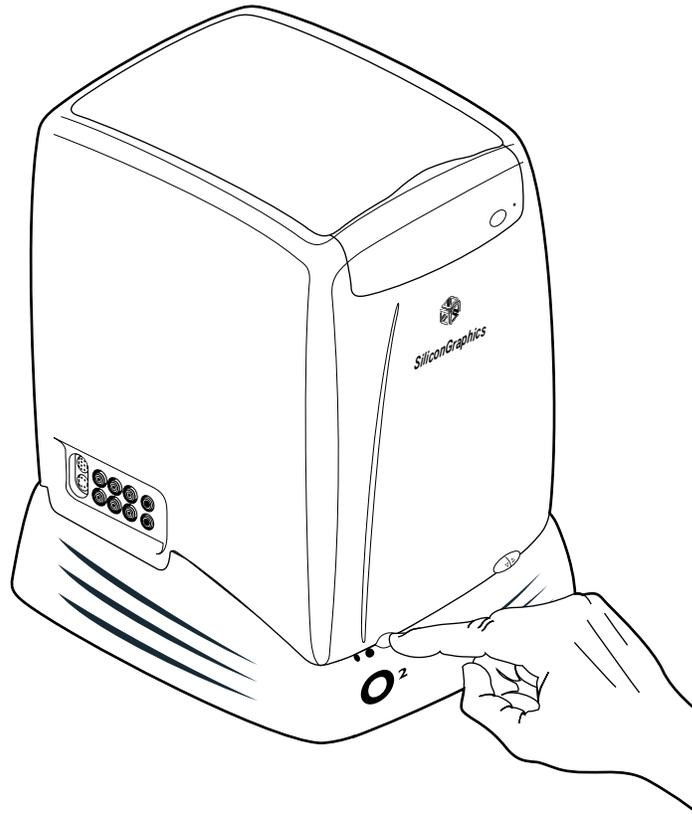

Figure 1-1 Turning Off the Workstation
1. If you haven't already turned off the workstation, do so now by pressing the power button on the front (Figure 1-1).